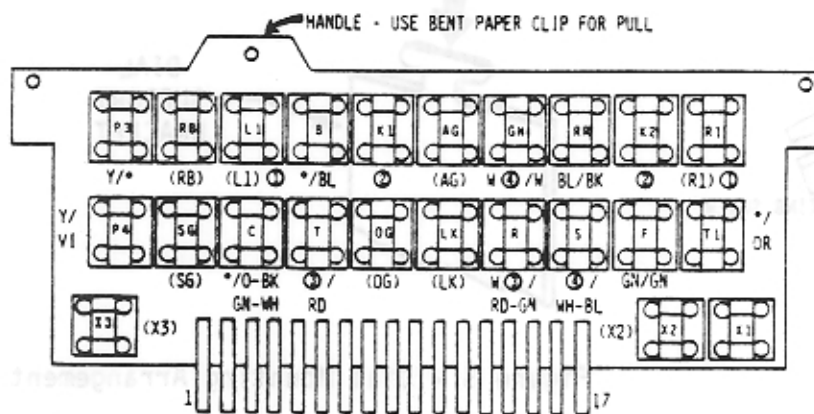

Figure 2 - Dial Terminal Board (DTB)
straps must be removed from the T connector. The installer should check that the straps shown in table 1 are in place on the DTB and if not install them. Four straps are provided with the DTB. Figure 2 shows the layout of the DTB and figure 3 shows the layout of the HANU board.
4.16 Most standard dials with leads terminated in spade-tips, may be connected to the DTB and installed in the set. Connect the leads of the dial to the DTB or the ANU as shown in table 1. Refer to figure 2 for DTB terminal layout and figure 3 for the ANU layout.